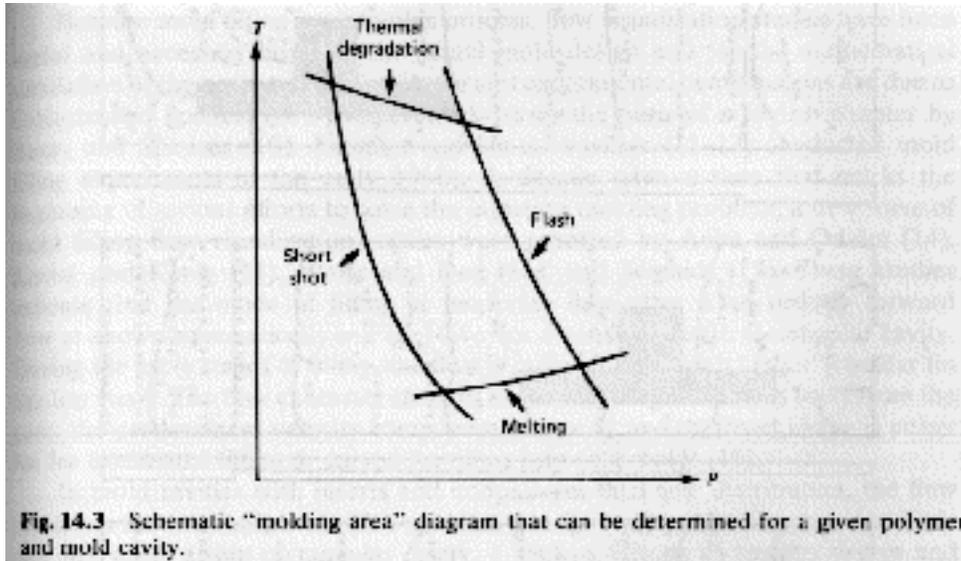
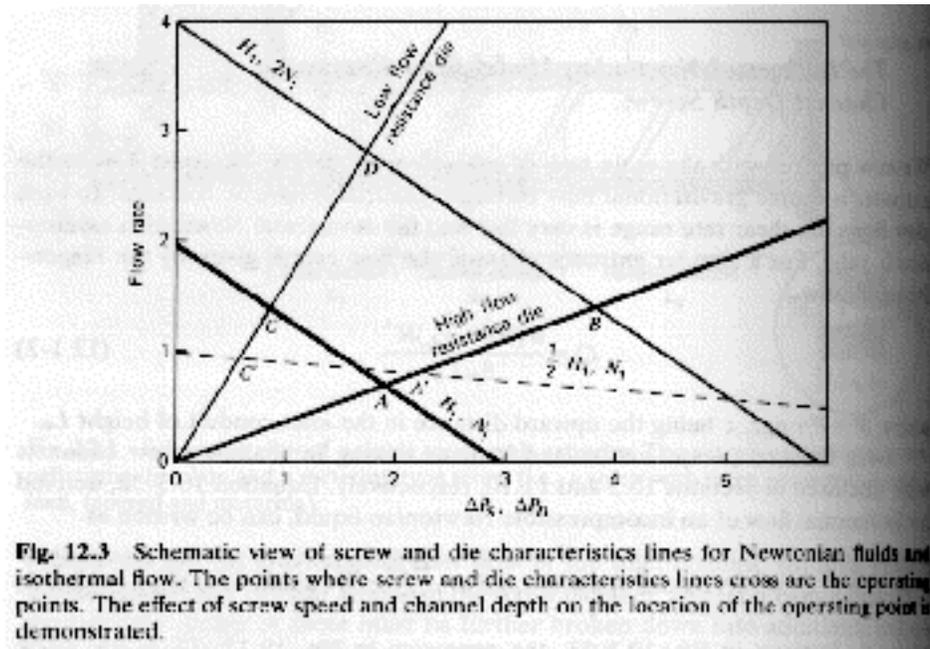

Figure 14.3 Tadmor and Gogos "Principles of Polymer Processing"
Figure 12.3 Tadmor and Gogos "Principles of Polymer Processing"
5) From #3 and #4 it would seem that high temperature would be good for processing. #3 and #4 are opposed by the degradation of the polymer which leads to an "Operating Window" for any given operation in Temperature and Rate. (Figure 14.3 pp. 591 for example also fig 12.3)